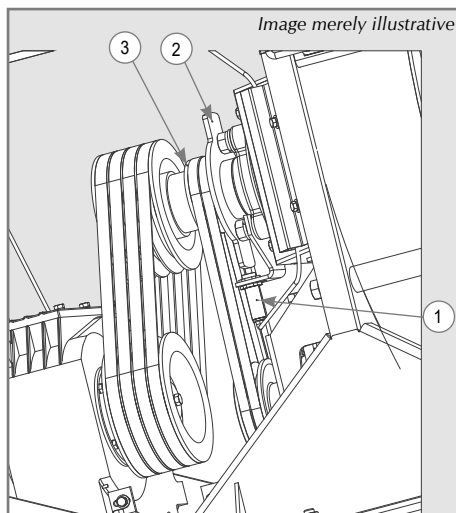

Figure 23
Installed in the pillow block set, the rotation sensor (1) is responsible for reading the rotation of the disk axis, as per Figure 23.